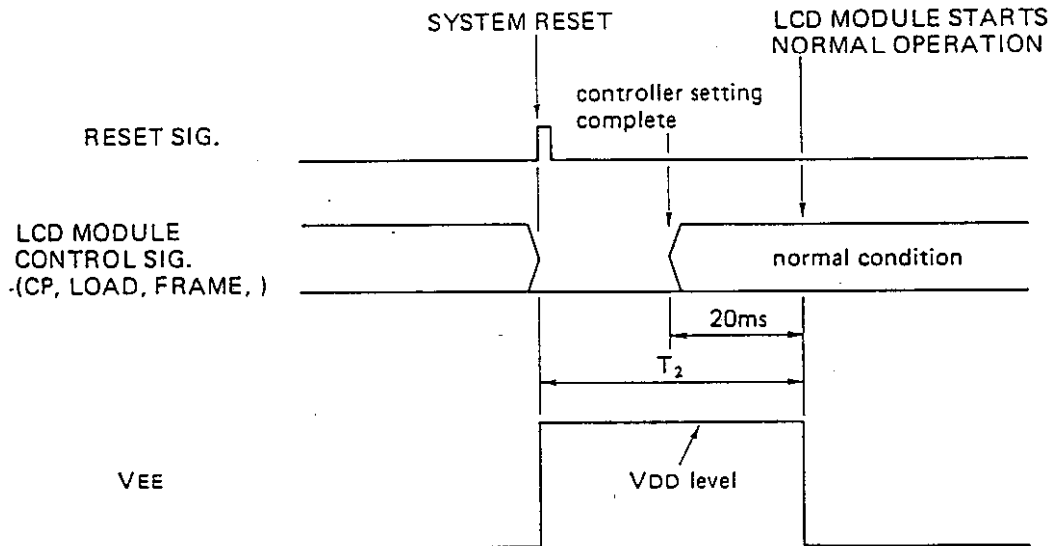

Fig.12-3
- T_2 : A time from reset has been applied to system to drive circuit in LCD module starts its normal operation, in case where reset is applied to system and control signal to LCD module no longer makes its normal operation temporarily. (See Fig.12-3 latter.)
As a result, there is possibility that DC voltage is applied to LCD panel in a period of T_2 shown in Fig.12-3 below.